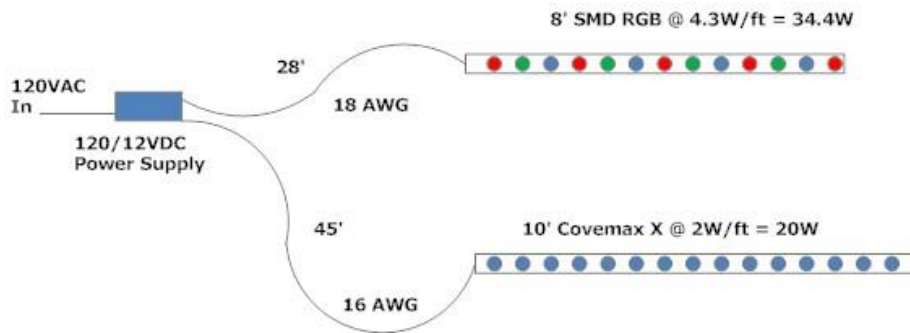

Fig. 1 Examples from above.
*These Examples are shown in Figure 1 below.